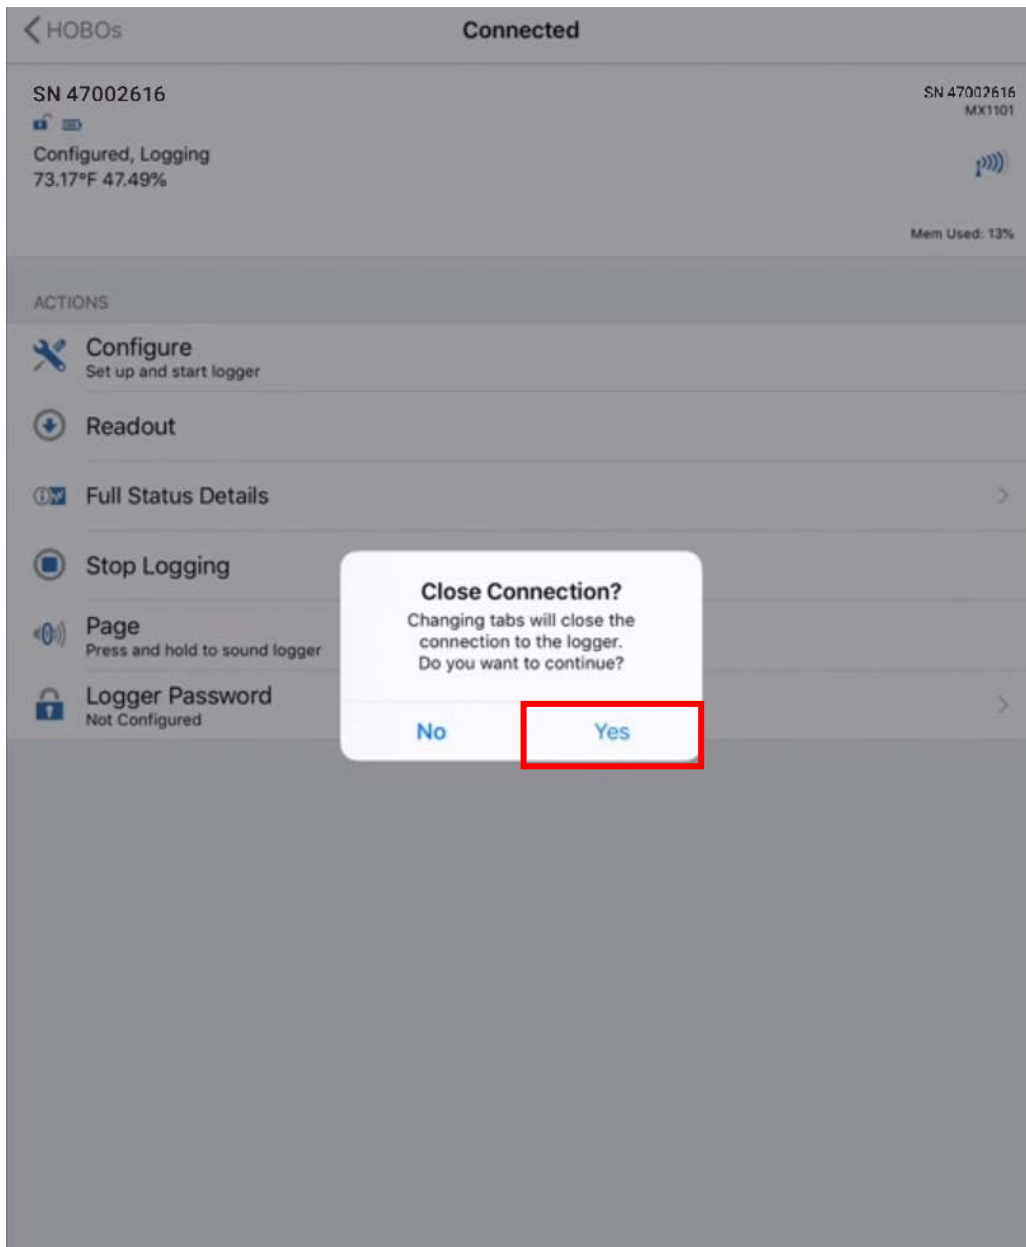

Figure A.6.19: The “Close Connection?” pop-up window.
3. After selecting the “Data Files” option, the “Close Connection?” pop-up window will show on the screen as shown on Figure A.6.19. Tap “Yes” to proceed. After performing this step, the MX1101 Data Logger can be removed from the site.